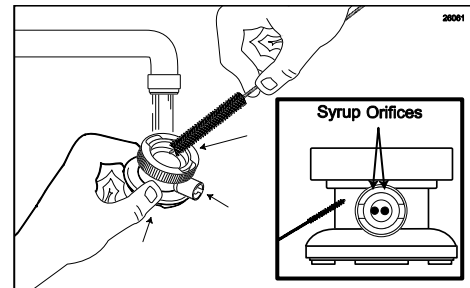

Figure 91
3. Brush and clean all exposed surfaces of the Injector Head with detergent water. Use a small brush to ensure that the syrup orifices are clear of any residual syrup. (See Figure 91.)